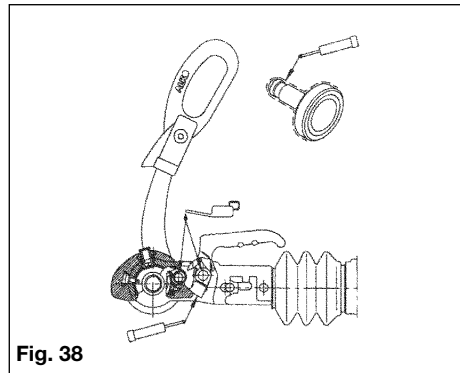

Fig. 38
- b) Areas may only be covered with a thin film of grease (Fig. 38).